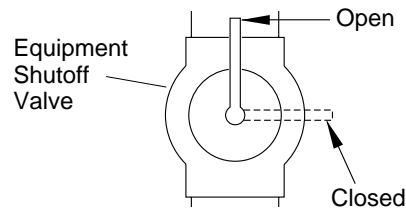

Figure 37 - Equipment Shutoff Valve
1. Close equipment shutoff valve (see Figure 37).
1. Open equipment shutoff valve (see Figure 37).